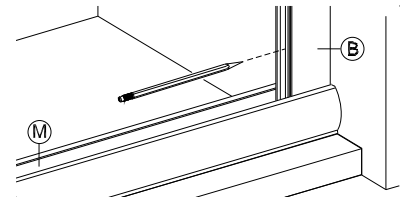

figure 2
3. Place Wall Jamb (B) on to ends of Sill (M) and up against shower walls as shown in figure 2. Plumb the Jamb, then pencil mark the installation hole locations on the shower walls (3 per jamb). Remove Wall Jamb. Use a 3/16" drill bit (designed to drill through material you are working with) to drill 1-1/4" deep installation holes in locations previously marked. Insert Plastic Screw Anchors (I) into holes.